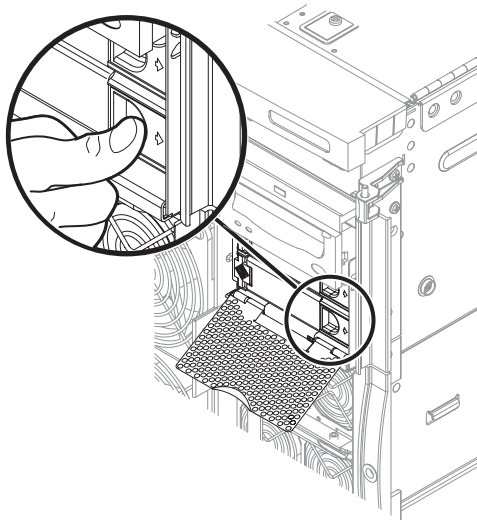

FIGURE 5-2 Releasing the Hard Disk Drive Ejector
7. Open the drive handle by pushing the latch to the right (FIGURE 5-2).